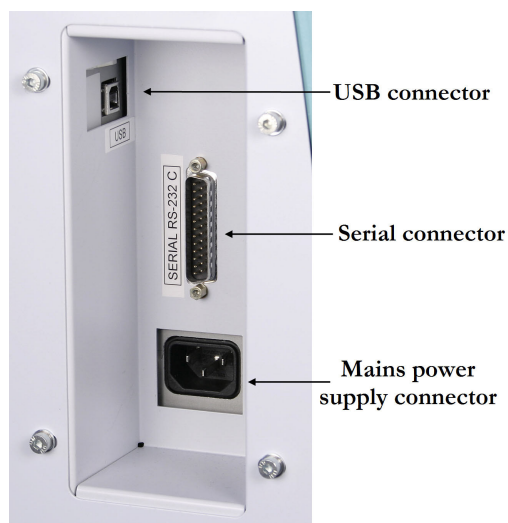

Figure 2-1. Computer and mains power supply connectors in the Varioskan Flash instrument
3. Connect the other end of the cable to the SERIAL RS-232 C connector (Figure 2-1) on the back panel of the instrument.
2. Connect the instrument to the computer using a USB cable (see Figure 2-1).